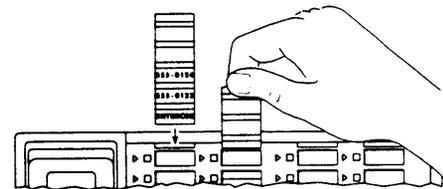

Figure 4
1. Above the touch-sensitive buttons, grasp the silver tab and pull the label out of the label slot (see Figure 4).